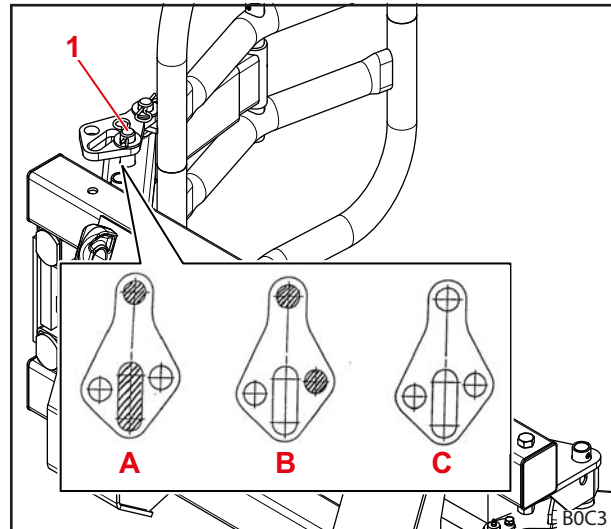

Fig. 46 Adjusting the gripper spacing to the bale width or bale diameter (left gripper)
- For round bales with a diameter smaller than 1.5 m, insert the pins of the guide element through the elongated slot (see pattern of holes A in Fig. 46).
- For round bales with a diameter greater than 1.5 m, insert the pins of the guide element through the hole with the short distance (see pattern of holes B in Fig. 46).